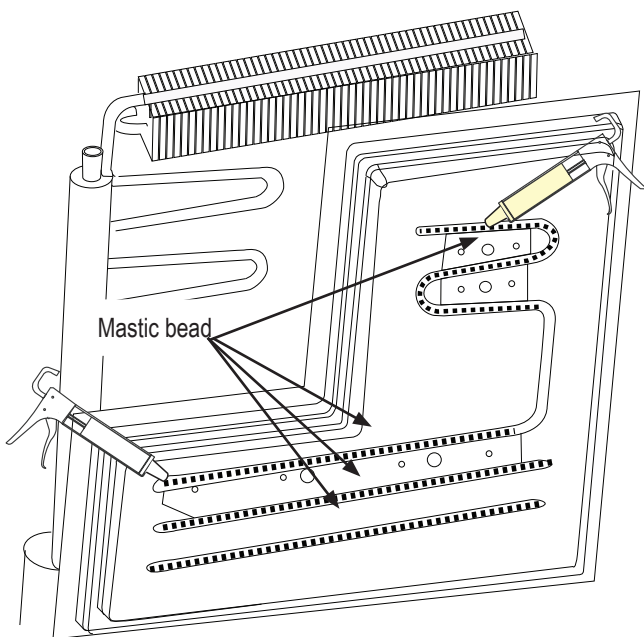

Figure 4. Applying mastic on evaporator tube surface
1. Apply a 3/4 inch wide x 1/2 inch thick bead of Thermal Mastic sealant to the surface of the evaporator tubes shown in Figure 4.